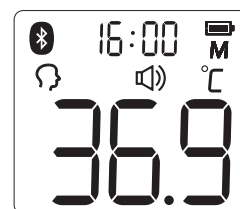

Figure 6
2. The thermometer will automatically memorize the last 30 temperature readings. Each memory also records the measurement date/time/mode icon. Each time the *Memory Button* is pressed, the screen displays past readings that correspond with a number 1-30. The number 1 reflects the most recent reading, while the number 30 reveals the oldest reading stored in memory. (See Figure 6)